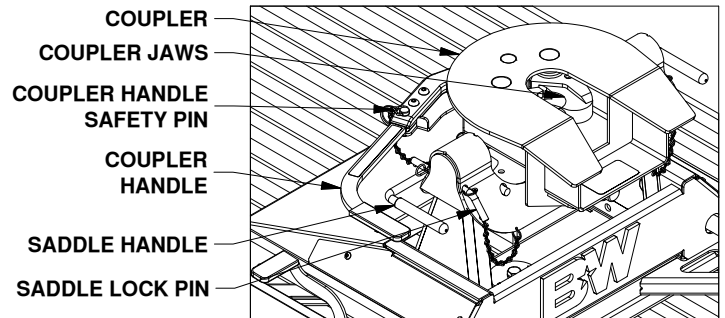

Figure F1: View of slider base
1. **Place coupler.** Lubricate the polyurethane bushings on top of pivot arms with high grade lithium grease (available at your local hardware/automotive store). Place the coupler over the pivot arms. (The saddle handles should be parallel with the slider base in the latched position.) Place the saddle lock pins through the saddle, then insert the hairpins through the holes in the end of the saddle lock pins to secure the coupler to the pivot arms, see Figure F1.